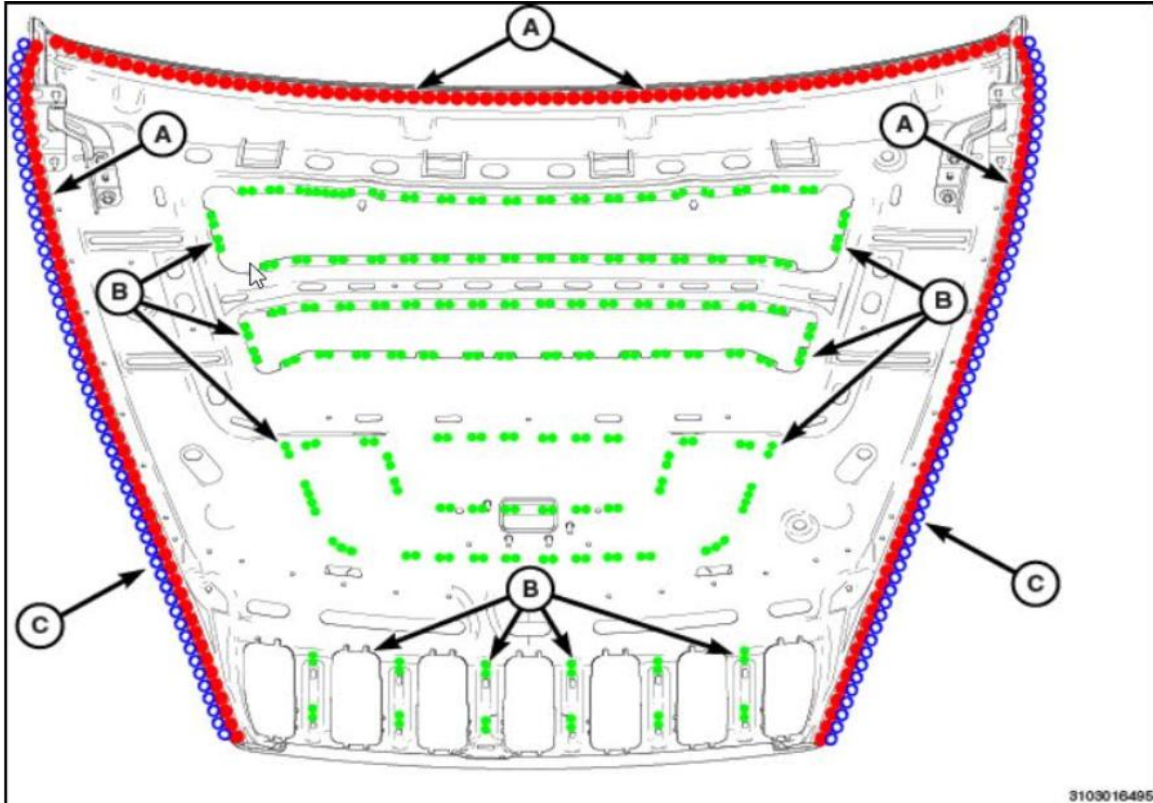

Fig 5 Anti-Flutter Foam shown in green (B)
4. If the front of the hood is no longer shaking while driving, but the hood sheet metal is moving examine the hood's anti flutter foam for separation. The green dashed lines show the anti-flutter foam in Fig 5.